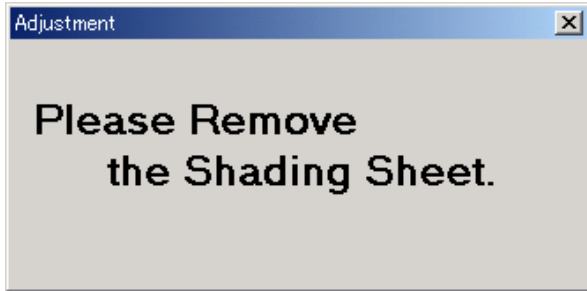

Figure 5-208
- 6) Remove the shading sheet when “Please Remove the Shading Sheet” is displayed in the sheet removal screen shown in figure 5-208.